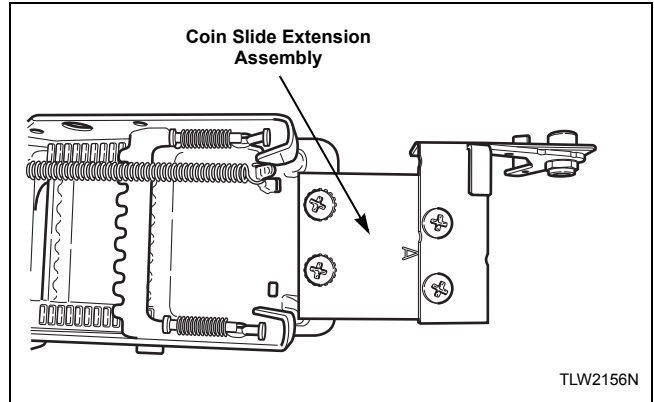

Figure 20
5. Install coin slide extension assembly onto top of coin slide using two remaining screws and lockwashers. Refer to *Figure 20*.
3. Install slide extension onto top of coin slide using two screws. Refer to *Figure 20*.